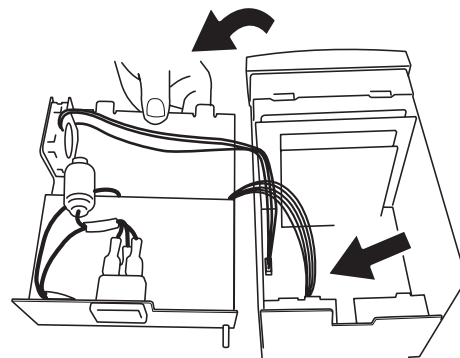

Figure 10.2b Lift and invert cover
3. Lift and turn the cover over as shown in figure 10.2b, to reveal the internal structure of the unit.